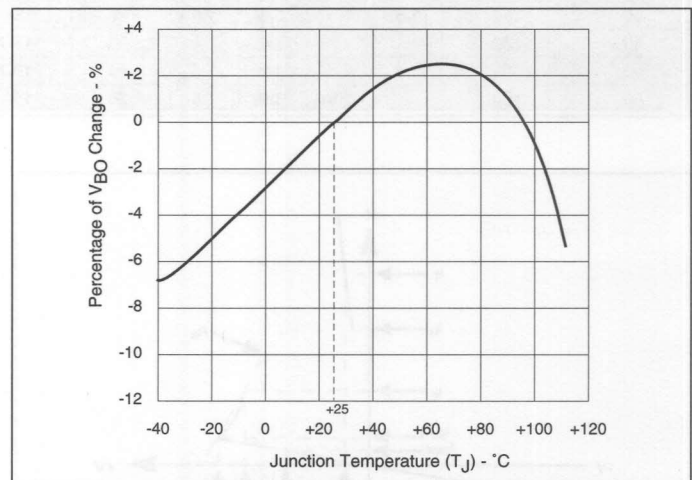

Figure 9.6 Normalized V_{BO} Change vs Junction Temperature
- See Figure 9.6 for V_{BO} change vs junction temperature.